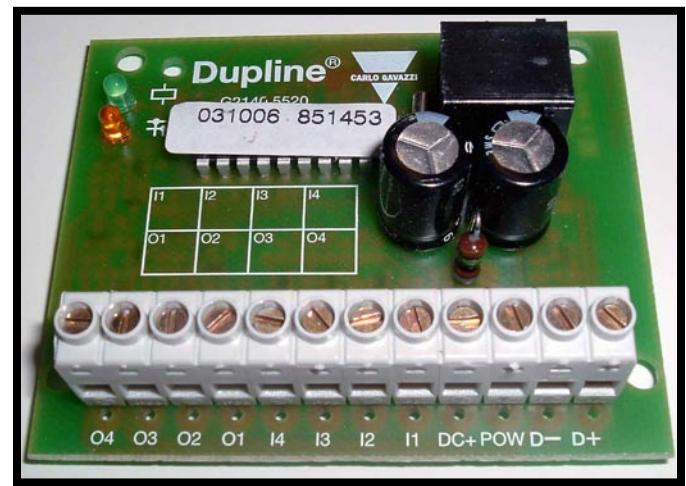

Figure 3 4 IN/4 OUT Dupline Board
- 3) Connect the wiring from the Dupline board to the NJ Car Station Keyswitch (marked OFF/ON) as follows. Refer to Figures 3, 4 and 5.